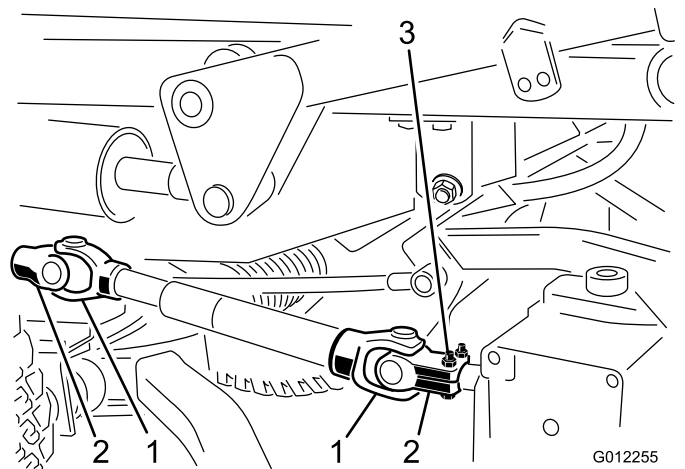

**Figure 17**
- Blade spindle bearings (Figure 17)
- Idler arm pivot (Figure 17)
- Right and left push arm ball joints (Figure 17)